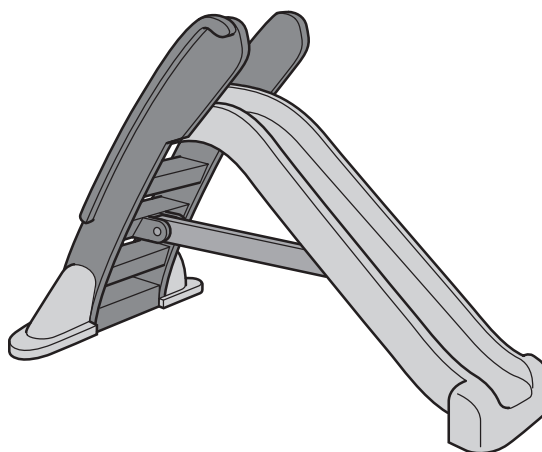

Fig. 3
3 Fig. 3 shows a child's play slide.
- (a) (i) Give **two** reasons why thermoplastics are suitable for the play slide shown in Fig. 3. [2]
- (ii) Name **two** thermoplastics for the play slide shown in Fig. 3. [2]